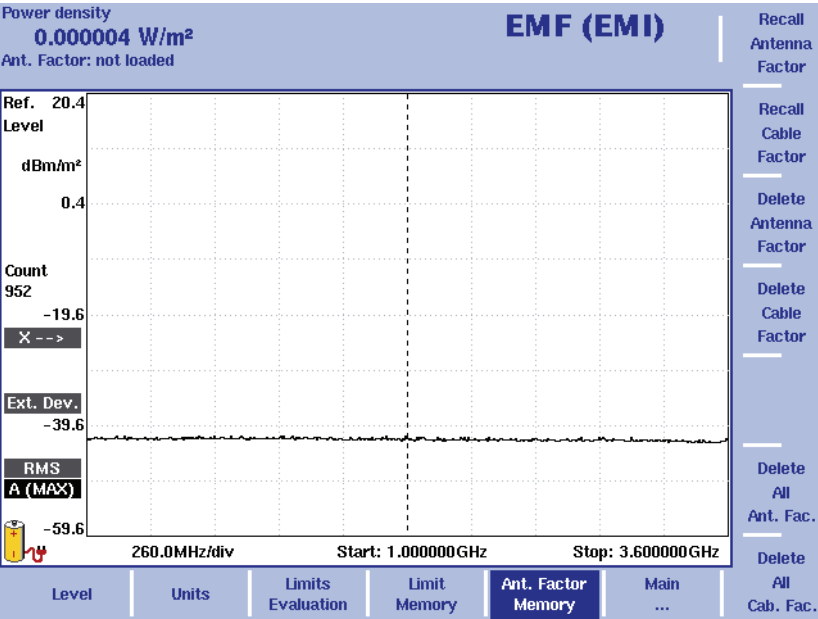

Figure 56 Antenna Factor menu
- 1 In the EMF (EMI) main menu select **Level > Ant. Factor Memory**. The Antenna Factor Memory is displayed (see Figure 56 on page 202).